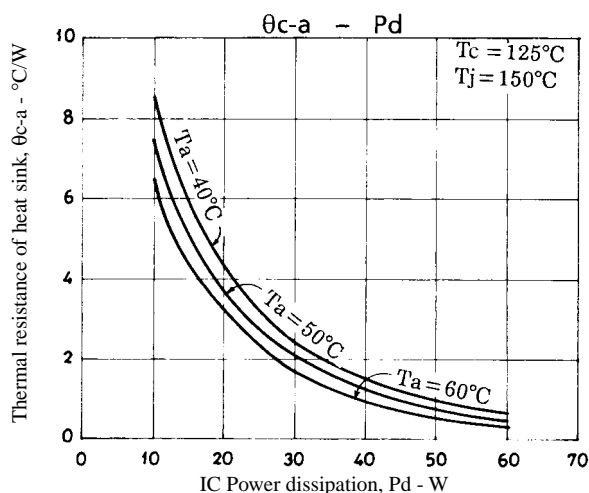

Figure 3. STK4102II $\theta_{c-a} - P_d$
Figure 3 shows the relation between P_d and θ_{c-a} given from (1) and (3) with T_a as a parameter.
The thermal resistance of a heat sink is obtained from Figure 3.